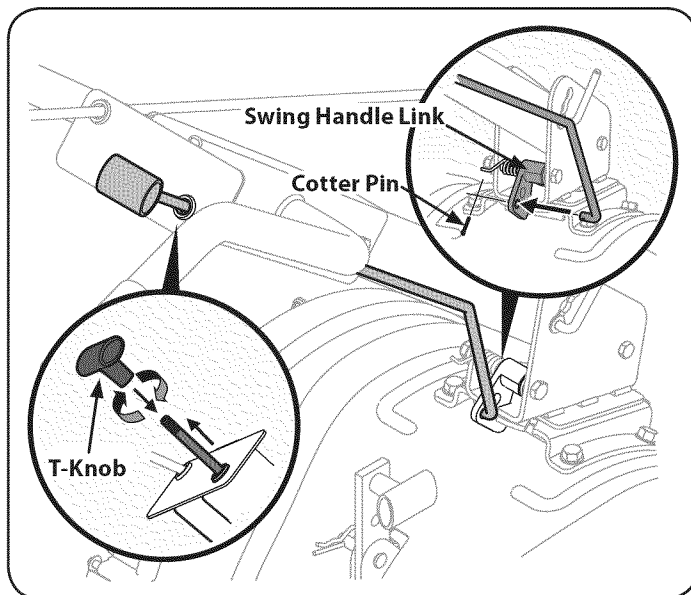

Figure 5
- Remove the cotter pin and T-knob from the handle swivel rod. See Figure 5.
- Slide the handle swivel rod through the upper handle assembly, insert the lower end of the rod into the swing handle link and secure with the previously removed hardware. See Figure 5.